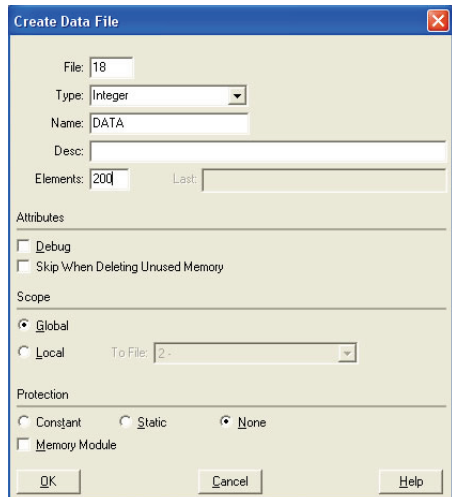

Figure 79: Creating a Data File
- c) Follow the same procedure to create a data file. This file will be used to store the incoming data read from the interface card. Enter a file number (e.g. 18), set the type to "Integer", enter a descriptive name (e.g. "DATA"), and enter a number of elements (e.g. 200). Refer to Figure 79. Click OK to create the file.